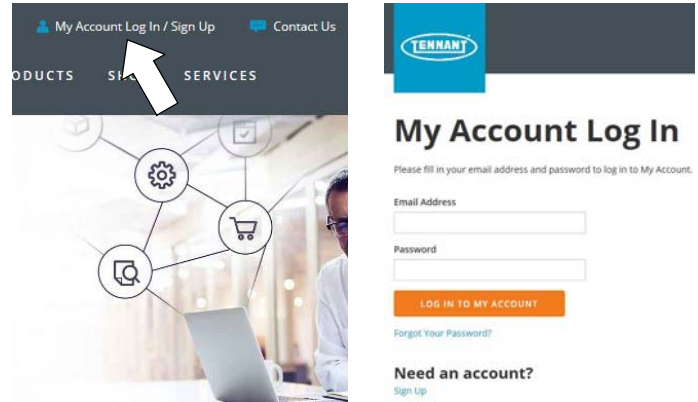

Fig. 10
1. Press “My Account Log In/Sign Up” to open or create an account (Figure 10).